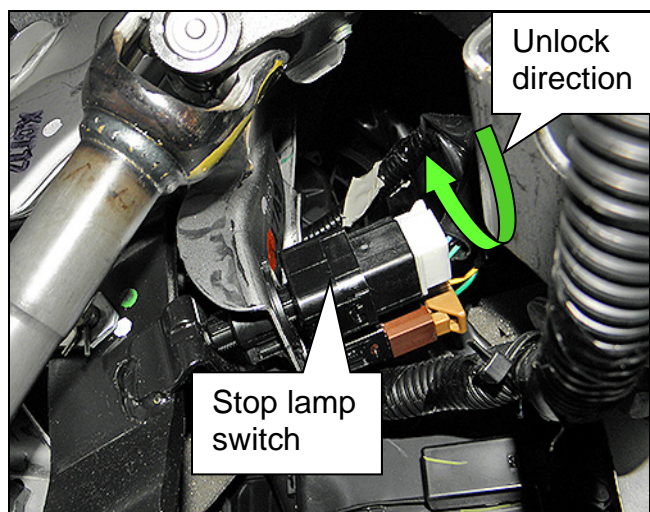

Figure 12
1. Turn the stop lamp switch (left side switch, Figure 12) 45° counterclockwise to unlock.